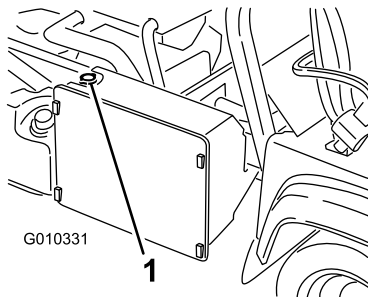

Figure 55
3. Remove the radiator cap (Figure 55).
7. Top off the radiator and install the cap (Figure 55).